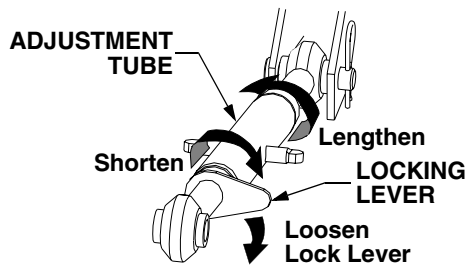

Figure 28
- The length of the upper hitch link is normally determined by the design of each implement. To adjust the upper hitch link, loosen the locking lever and turn the adjustment tube as shown in Figure 28. After the appropriate length is attained, tighten the locking lever. If correctly adjusted, the upper hitch link will be parallel or nearly parallel to the lower hitch links.